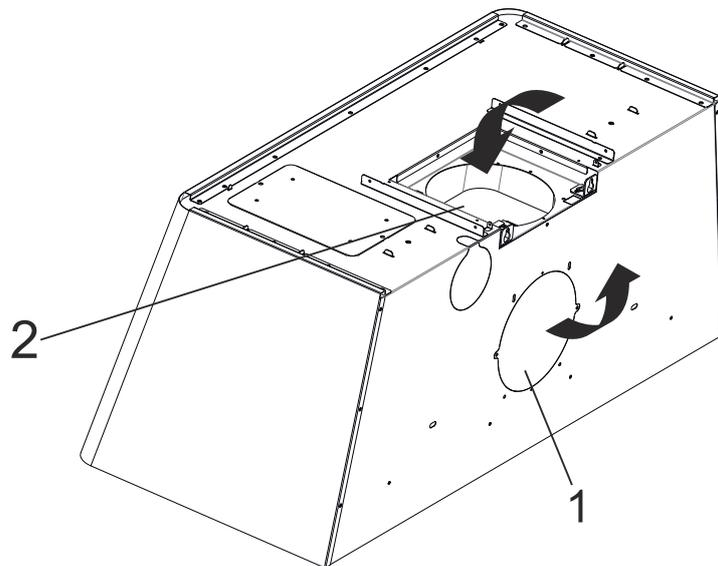

Fig. 17: .
2. ➤ In order to rotate the engine, carefully suppress and tap on the rear plate which has been cut previously. (Fig. 17/1).
4. ➤ In order to close the hole at the top, use the grooved plate along with 2 screws (Fig. 17/2).